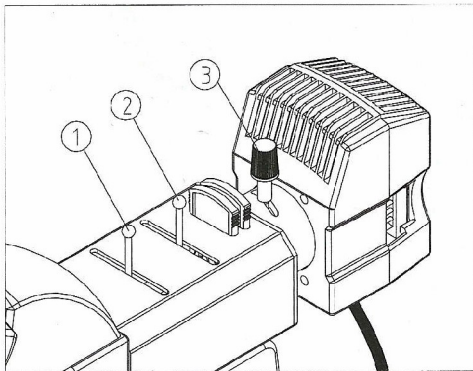

Fig.22
3.3 Adjusting the Illumination Set (Fig.22)